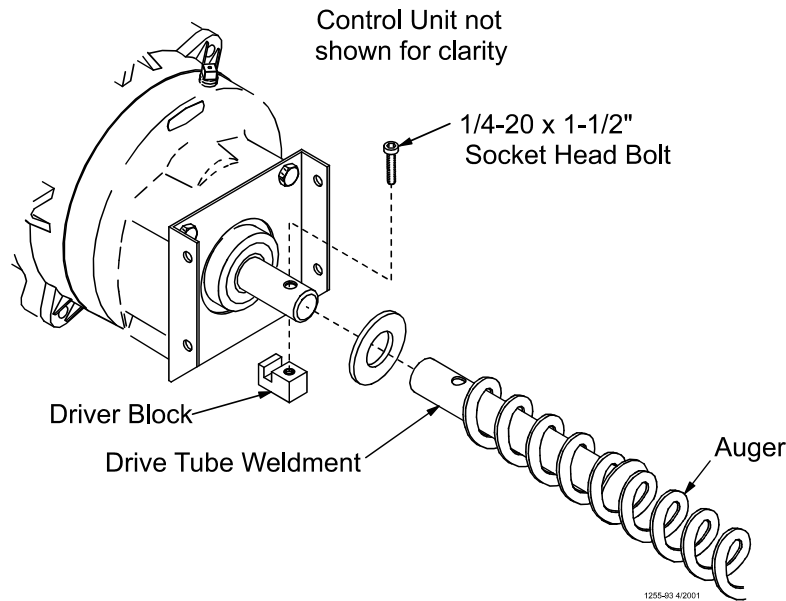

Figure 31. Auger Driver Components
4. Slide the Drive Tube and flat washer over the output shaft on the Power Unit, as shown in **Figure 31**.
6. Turn the Drive Tube Weldment into the auger, then attach to the output shaft of the Power Unit, as shown in **Figure 31**. Use the Driver Block to secure the auger to the Output Shaft.